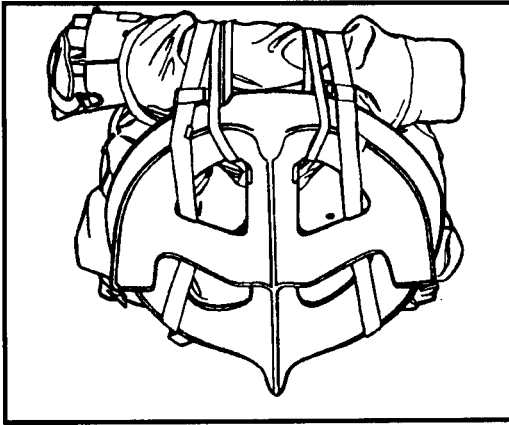

Figure 12-24. Aiming posts packed and secured.
c. **Ammunition Bearer.** Place the aiming posts under the top flap of the pack and secure with 1/4-inch cotton webbing to the top of the frame (Figure 12-24). Place the large baseplate over the outer accessory pouches and secure to the top